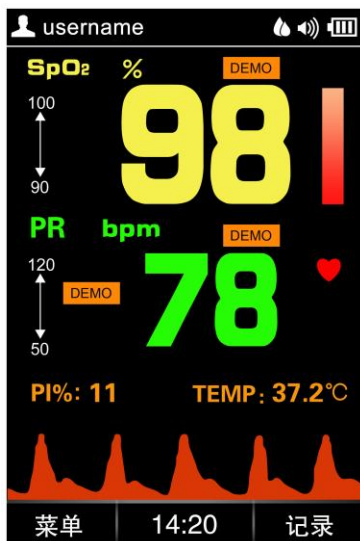

Figure 4.10J Demo mode
- Demo: Enter into the Demonstration mode, as shown in figure 4.10J.